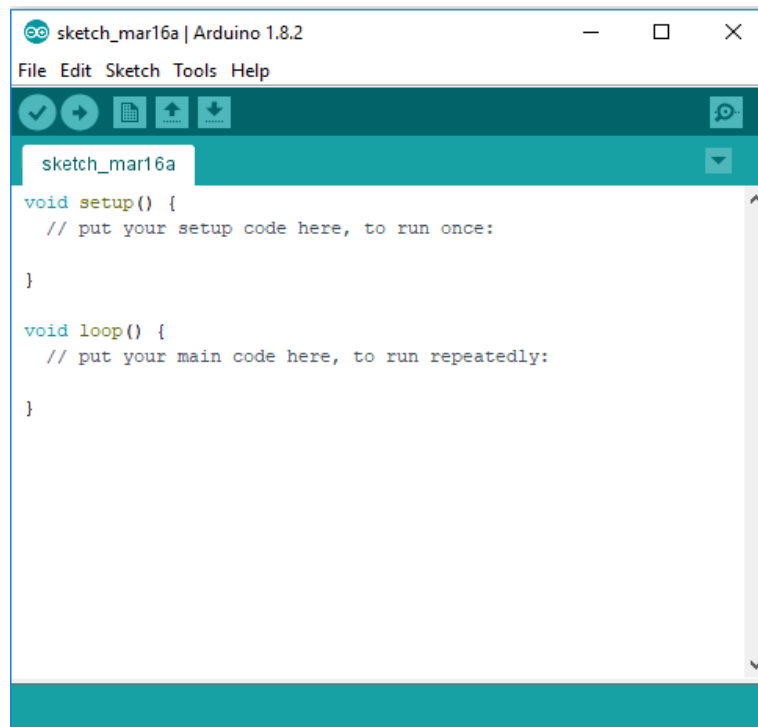

Fig. 5 IDE Environment (text editor)
2. Now, write the program by copying the codes given in the boxes in sequences on the blank sketch of Fig. 5 for the LED control.